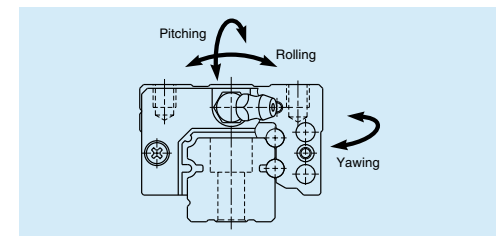

Fig. 3.5 Moment rigidity
- (2) Moment rigidity: Three moment directions, pitching, rolling, and yawing (Fig. 3.5).